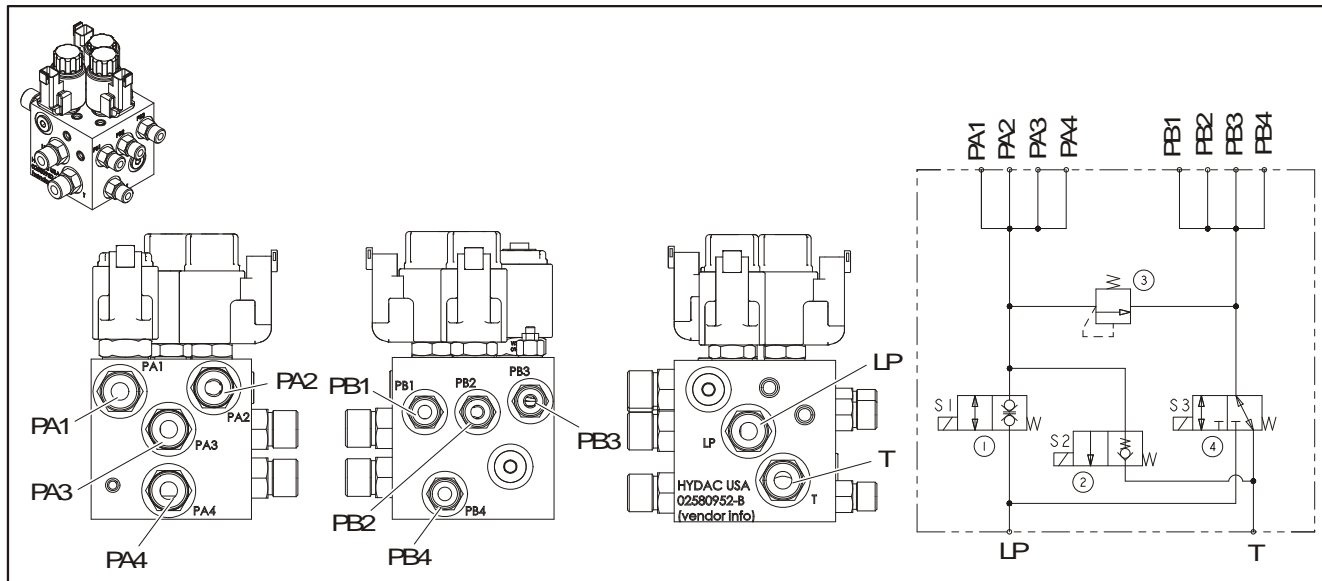

Figure 4-19. Leveling Jacks Directional Valve
- Adjust the relief valve located on the leveling jack directional valve (refer to Figure 4-19.) clockwise to increase, counter-clockwise to decrease. (The relief valve is on the same face as the solenoid valves).